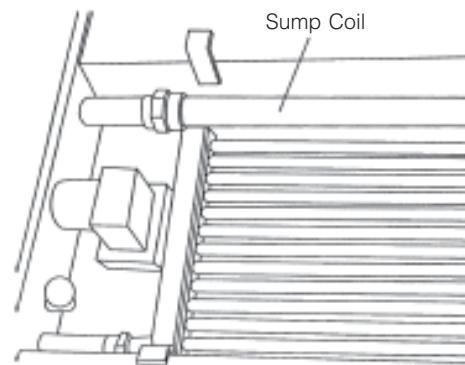

Figure 3-43. Replace Sump Coil
5. Replace sump coil in chamber sump (see Figure 3-43). Reattach coil to piping connection.